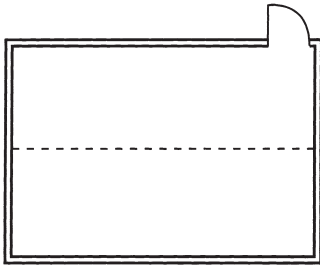

Fig. 33 - Center line
- Place a mark in the center of the floor at each end of the room. Snap a chalk line between the marks (Fig. 33).